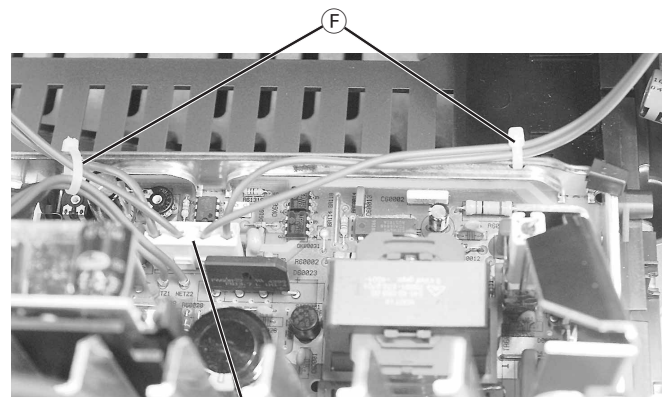

Fig. 10
- Disengage the cable clamps ⑥ from the mains leads on the chassis frame and pull off ST-NETZ1 if necessary (Fig. 10).